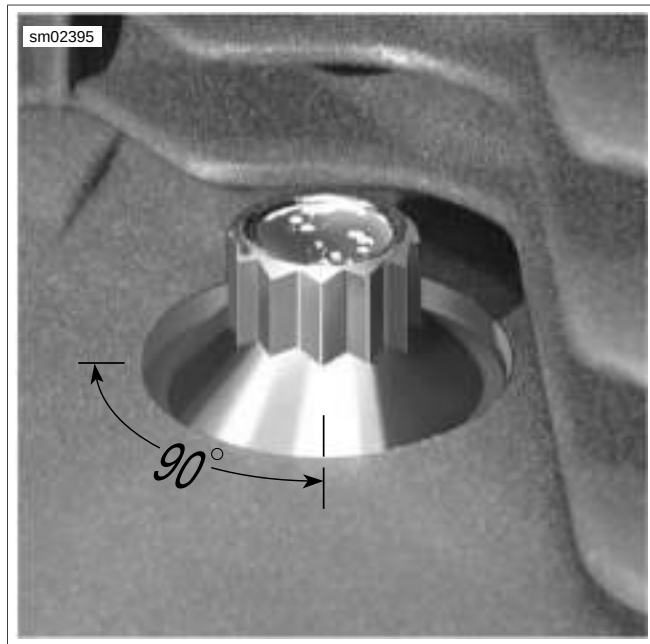

Figure 3-36. Final Tightening for Cylinder Head Bolts
- d. See Figure 3-36. Using a grease pencil, mark a straight line on the cylinder head bolt continuing the line over onto the cylinder head.